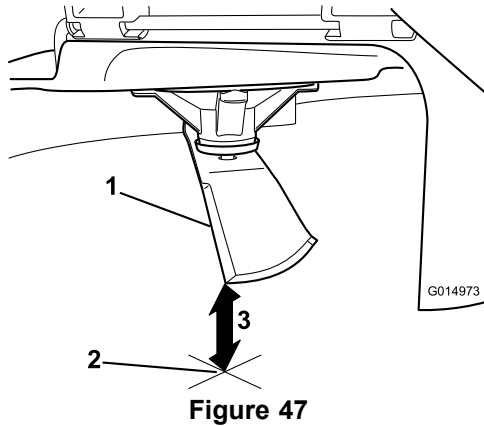

Figure 47
3. Measure from the tip of the blade to the flat surface (Figure 47).